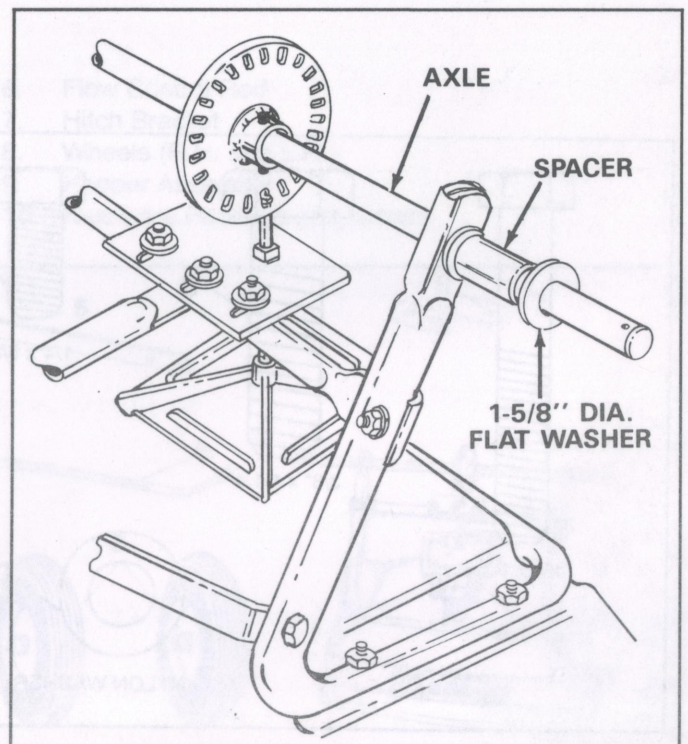

FIGURE 5
- 8. Assemble one spacer, and one 1-5/8" dia. flat washer to each side of axle. See figure 5.